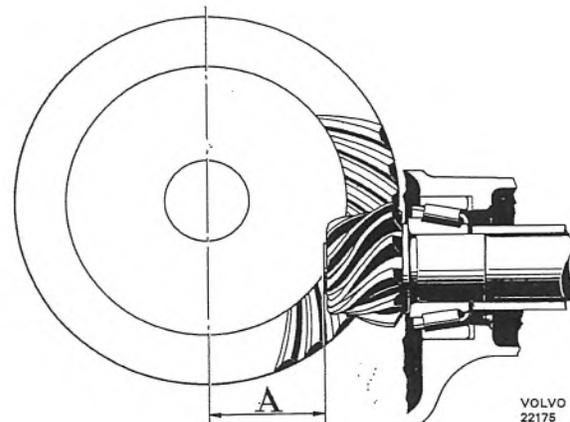

Fig. 4-147. Pinion location
2. The pinion should have a certain nominal measurement (A, Fig. 4-147) to the center line of the crown wheel. Due to tolerances in the manu-